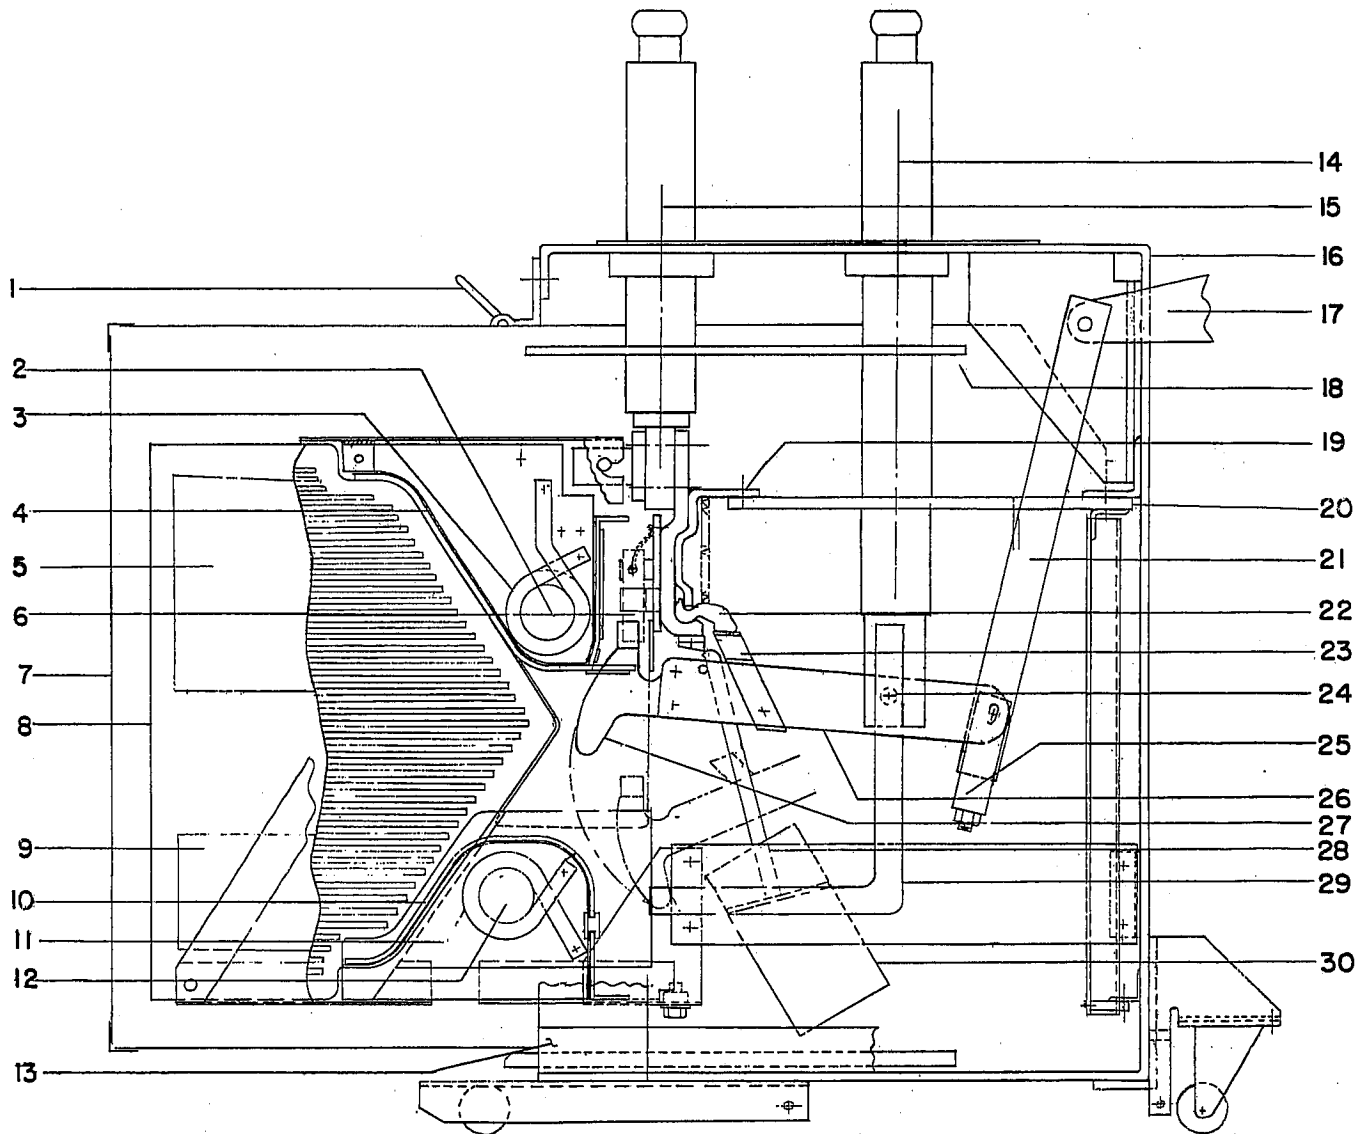

Fig. 8 (0258C0689) Cross Section of Breaker Pole Unit
As the breaker opens to interrupt a current, the arc first starts at the arcing contacts (6 & 27) Figure 8, transfers to the arc runner (4 & 10) and energizes the blow-out coils (3 & 11). This action introduces a magnetic field between the pole pieces (5 & 9) of the interrupter that forces the arc deeper into the arc chute (8). At the time the arcing contacts part a discharge of air is expelled through the booster tube (28) across the arc. This air flow assists the arc transfer and interruption by blowing the arc away from the contacts and into the arc chute. The magnetic field forces the arc deeper into the interrupter along the diverging arc runners.